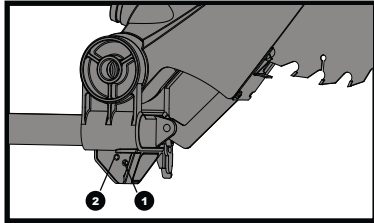

Fig 17
Three laser module mounting/adjustment screws are provided. Two (1,2) are positioned on the LH side of the laser housing, and one (3) on the RH side of the laser housing. These screws gently hold the laser module in place and on alignment by bearing on the laser modules casing. It is important that during any adjustment the pressure on the laser module casing is maintained as closely as possible to the factory setting. Do not over tighten any one screw – damage to the laser casing could result. (See fig. 17&18)